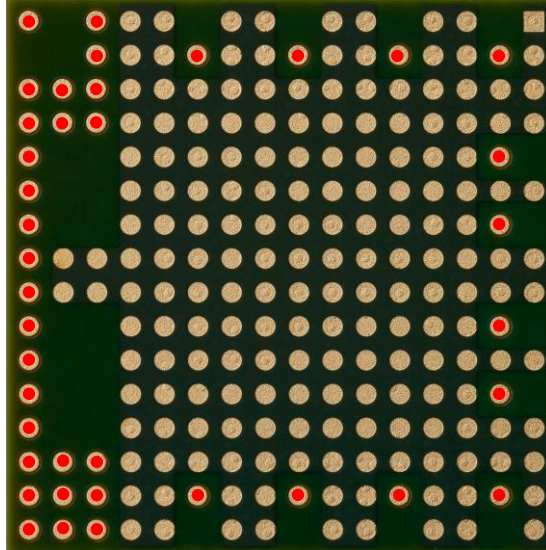

Figure 6: NSMD pads on the package
- Figure 6 shows NSMD pad locations as viewed from the bottom surface of the package. The red dot signifies the location of 39 NSMD pads. All unmarked pads are of SMD construction.